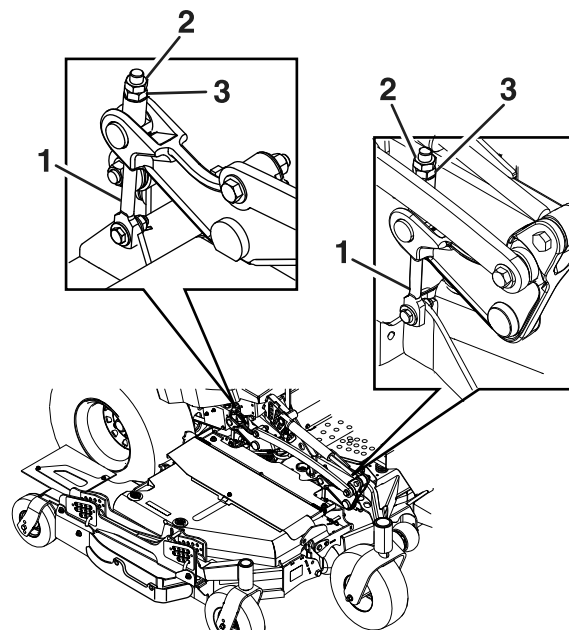

Figure 72
Loosen the jam nuts on the top of each deck adjuster. Fine-tune the adjuster on the front deck-lift assembly by turning it to get the correct height for the left and right, front blade tips on the center deck (Figure 72).
5. If the 4 deck adjusters (Figure 72) do not have enough adjustment to achieve the accurate
6. To adjust the single-point system, first loosen the front and rear height-of-cut plate mounting bolts (Figure 72)